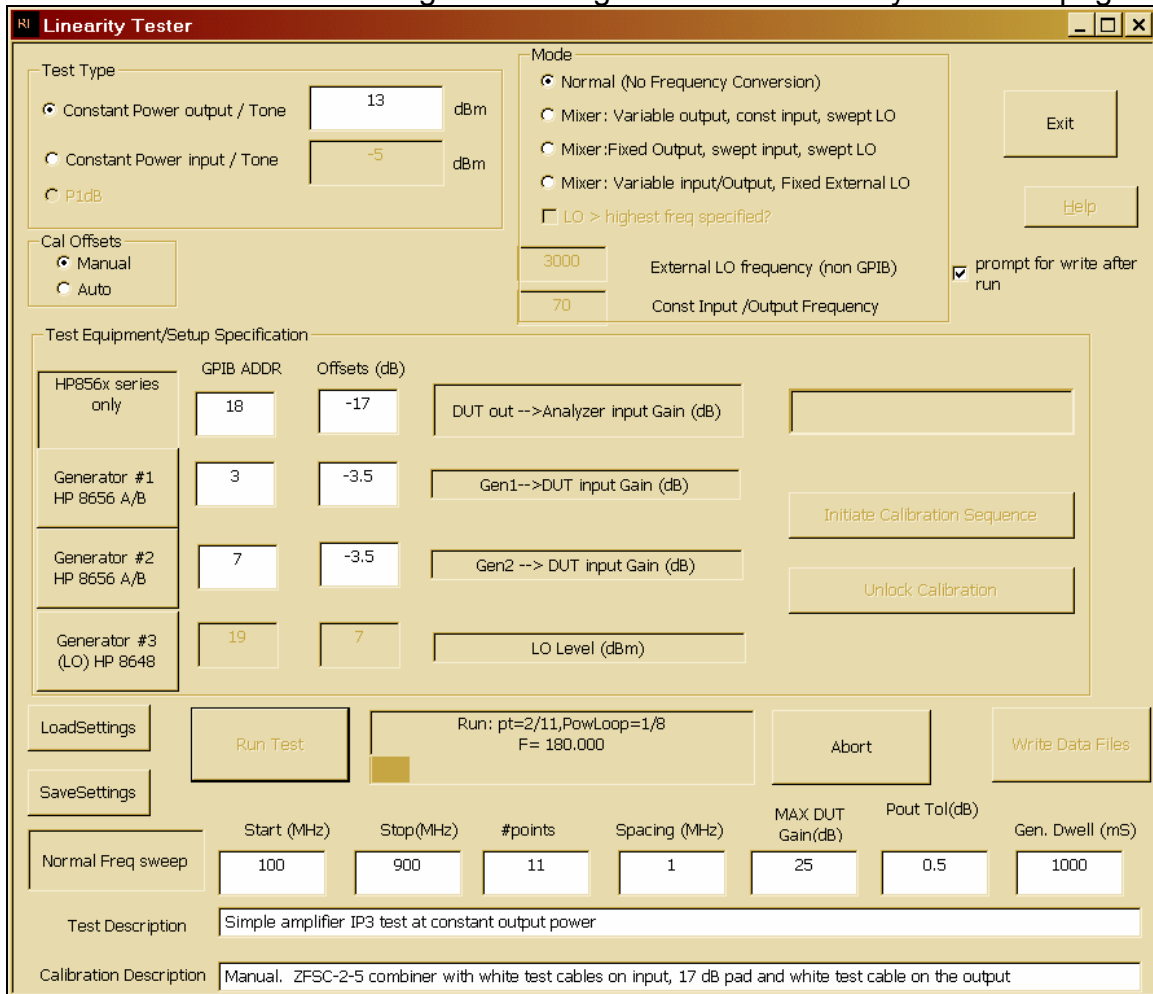
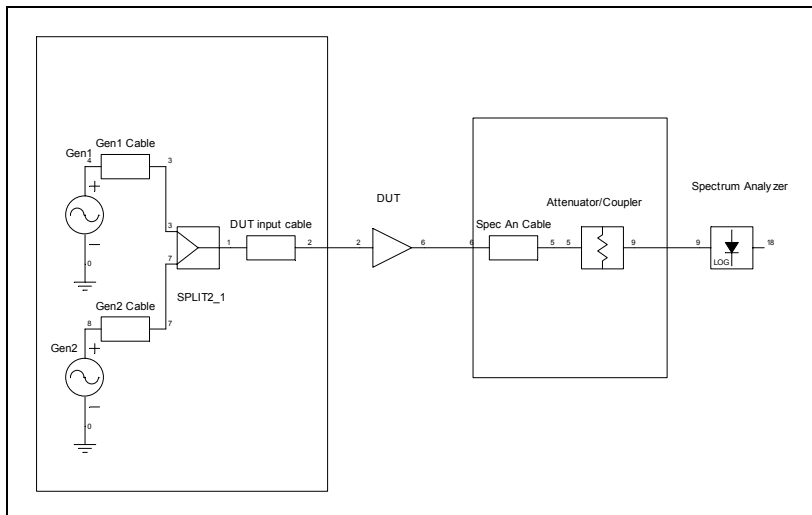

Figure 1: Main application window
Figure 2: Basic two-tone linearity test setup
We will progress from the upper left of the program window (See Figure 1) across and then down through the settings like text is normally read on a page.
5. Set the offsets. See Figure 2 for a typical setup. *The Cal offsets represent the items in the boxes.* I recommend using an attenuator at the spectrum analyzer input, I have some surplus 17 dB microwave attenuators so that explains the “-17 dB” setting in Figure 1. I typically use a mini-circuits ZFSC-2-5 power splitter/combiner in my setup and the “gain” of this from each generator to the DUT input is typically -3 to -4 dB.
Also realize that some features of the main program window (Figure 1) change as buttons are clicked, i.e. in the case of the mixer modes various parameters are locked out, and description text changes (such as the text next to the frequency sweep parameters).